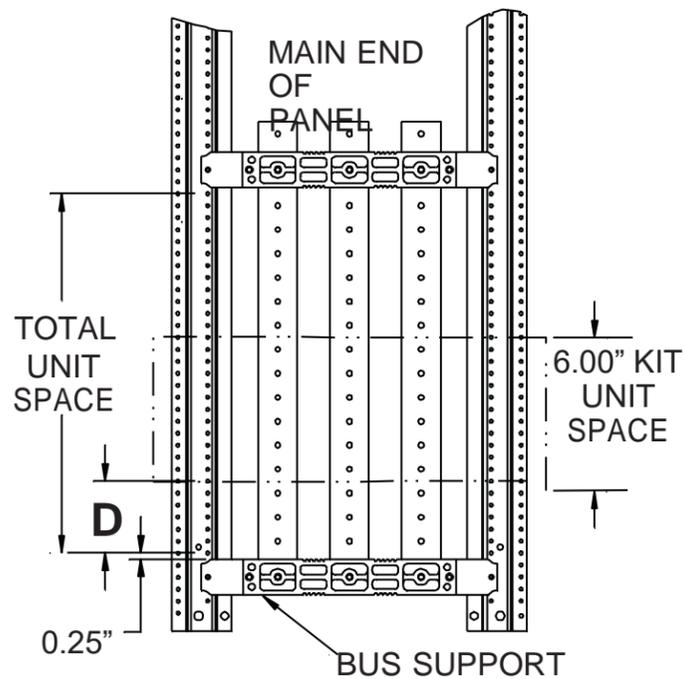

Figure 1
PREPARE PANEL (ref. to Figure 1):
3. This kit requires 6" of unit space. Determine the location where the kit is to be installed. The kit locating dimension **D** in Figure 1 must be a multiple of 3" (0", 3", 6", etc.). This measurement can be taken directly from a neutral barrier if present, or from a bus support in panels without a neutral. Note that 0.25" must be added to dimension **D** when taking measurements from the bus support (0.25", 3.25", 6.25", etc.).